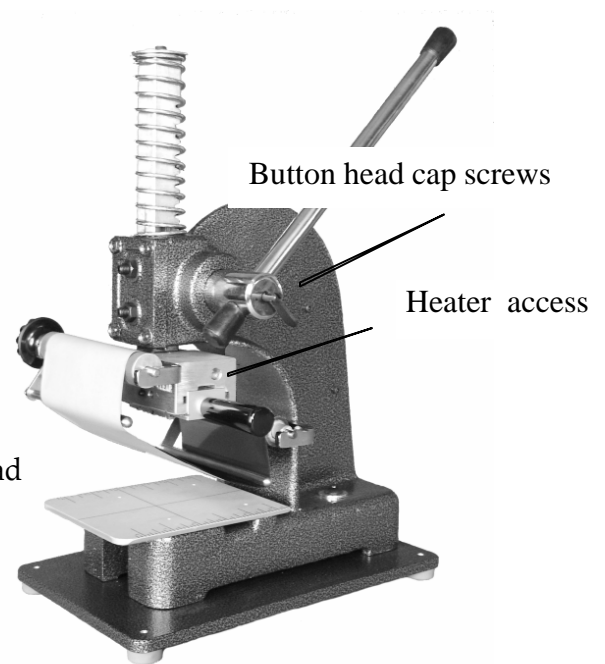

Figure 2
4. Remove 3 (three) Button Head Set Screws on right side that hold control box. (See Figure 2)
5. Unplug two (2) spade terminals from temperature controller. (H1 and H2)